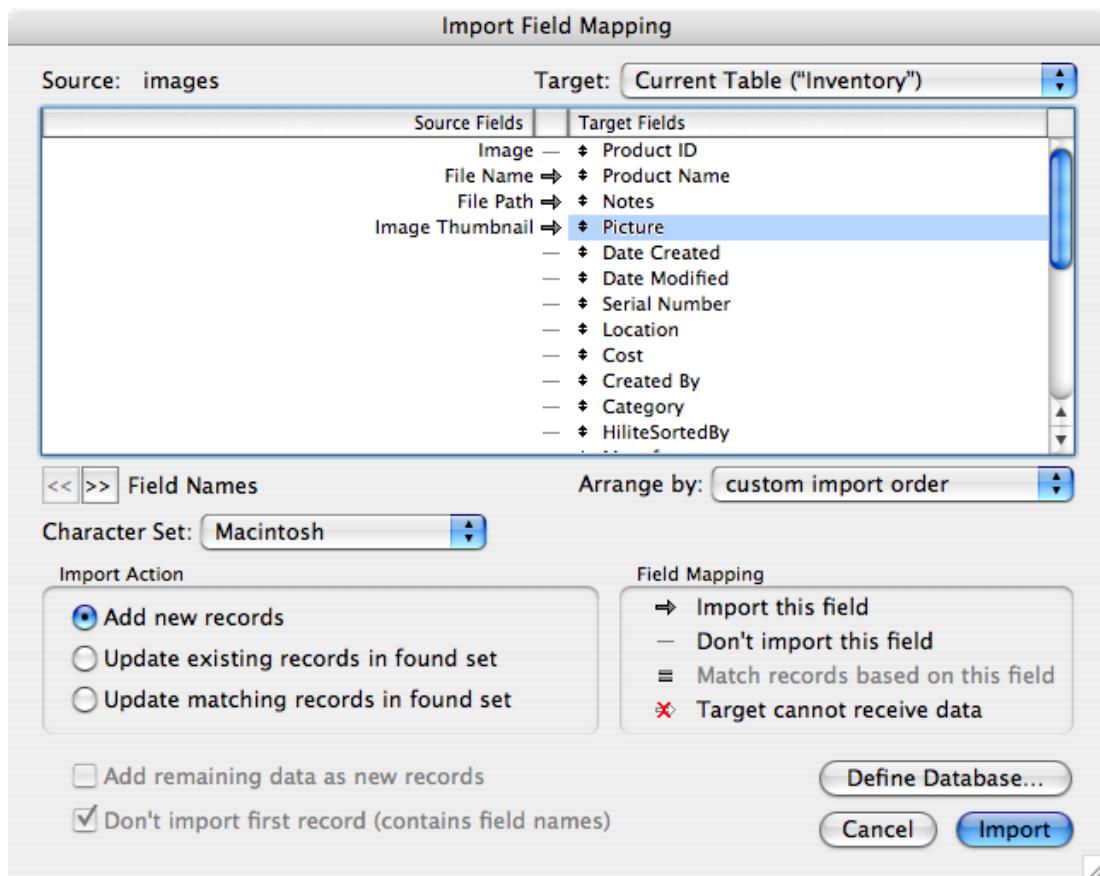

Figure 7: The Import Field Mapping dialog with fields mapped correctly
24. In the Import Field Mapping dialog, map the fields as shown in Figure 7: